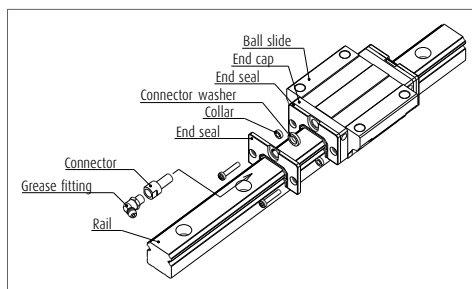

Fig. 7.2 Double seal
(1) Double seal
- › Double-seal set: Can be installed to a completed standard ball slide assembly later upon request. It comprises two end seals, two collars, and two machine screws for installation (**Fig. 7.2**). The product reference numbers of each series are described on the section of dust-proof parts.
- › When attaching a grease fitting to the end cap after the double seal is equipped, you require a connector shown in **Fig. 7.2**. Please specify the connector set when ordering the linear guides.